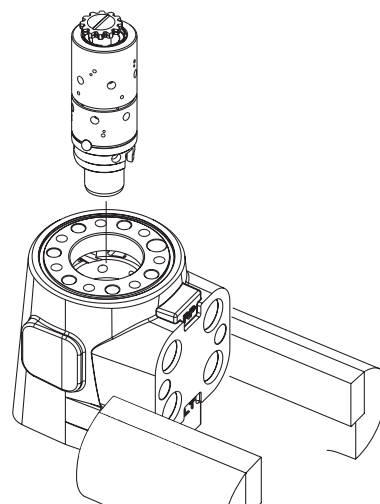

Figure 20
20. Install 72,6 mm [2.86 in.] ID O-ring in housing (figure 20).